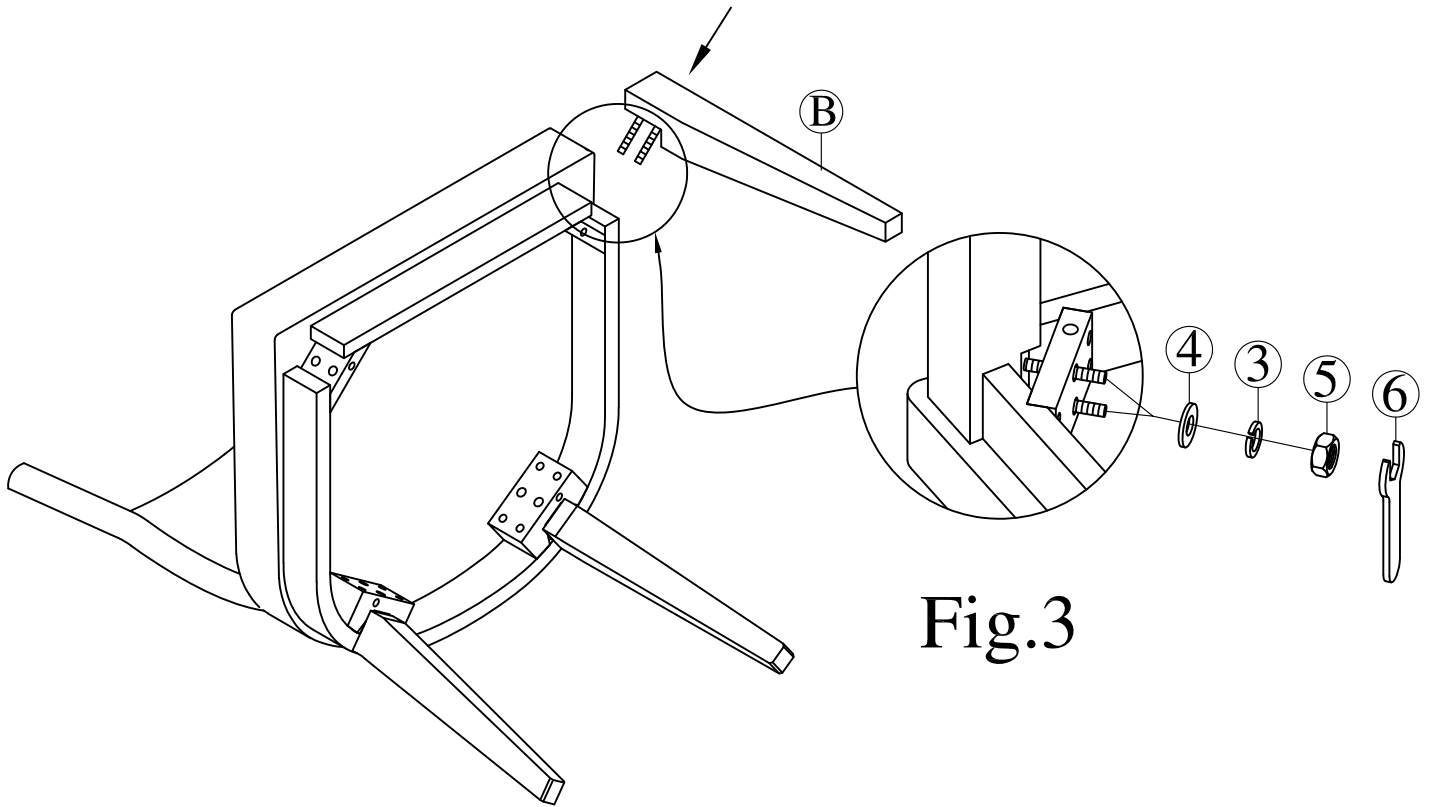

Fig.3
Step 2 : Attached front legs (B) to back rest (C) using the provided hardware as shown in Fig.3 and Fig.4 .